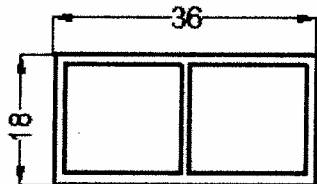

Figure 6-17b
- The size of the cabinet block in the design center is shown in Figure 6-17b.